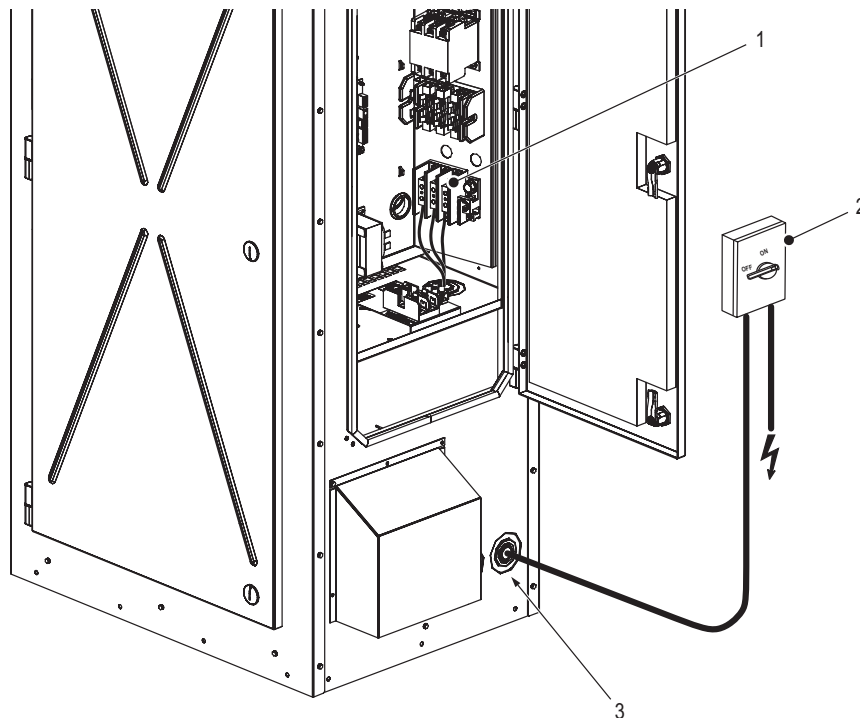

Figure 17: Nortec EL/RS Outdoor Humidifier Power Connection
- All electrical cables MUST enter the side or bottom of the unit through minimum IP55-rated cable glands (supplied by others) to ensure that the IP55 rating for the unit is maintained. Knockouts are available on the side and bottom of the unit for routing the cables into the unit – refer to Figure 17 on page 42.
- The power cable must be connected to the terminal block (X0). Refer to Figure 17 on page 42 and "Outdoor Enclosure Wiring Diagram" on page 43.